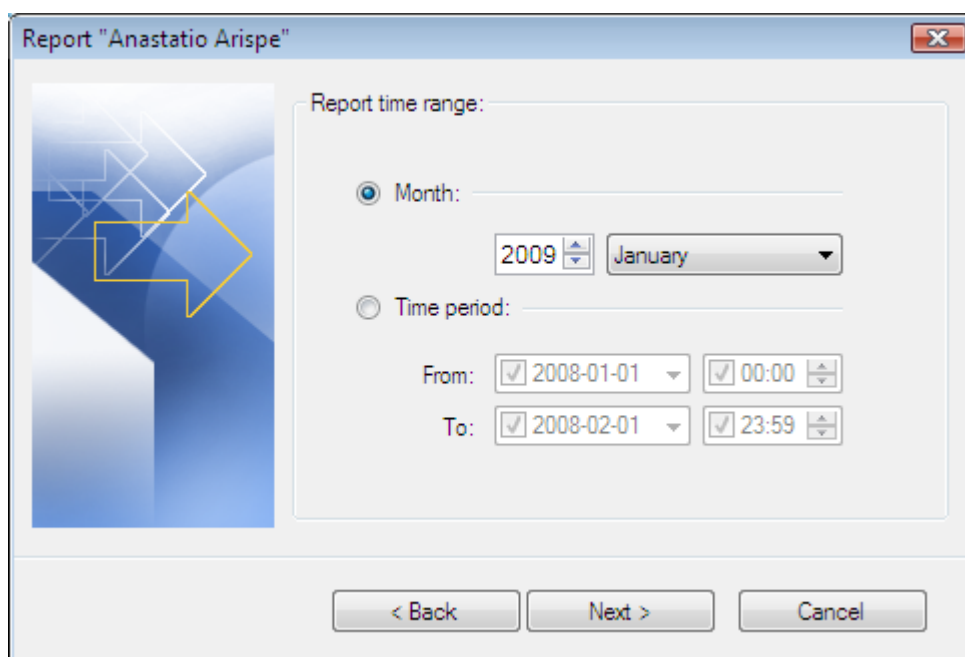

Figure 24. *Selecting time range for generating selected reports*
Step 2. Choose period, for which the reports selected are to be prepared (Figure 24).